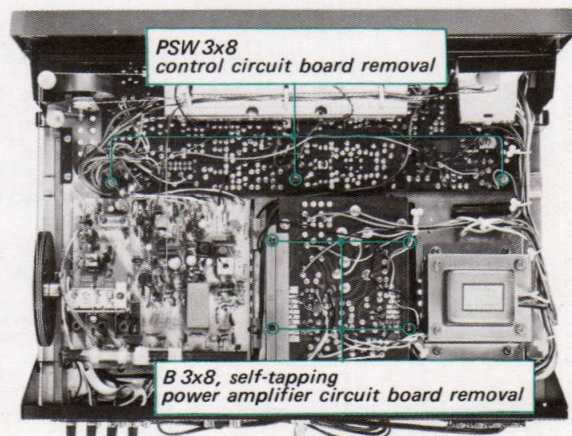

Fig. 2-13. Control and power amplifier circuit board removal
5. Remove the three screws securing the control circuit board to the chassis as shown in Fig. 2-13.
2. Remove the four self-tapping screws shown in Fig. 2-13.